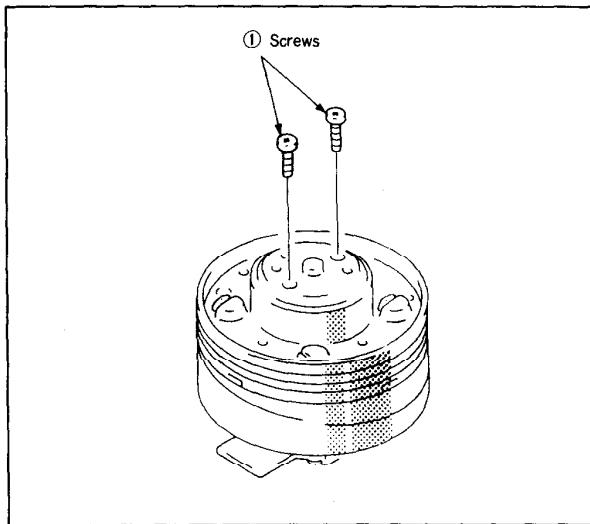

Fig. 28
- 1) Remove the two screws ① (Fig. 28).
- 3) Remove the jig ⑥ and push down the rotary upper drum ⑤ gently by hand. If it does not go all the way down, secure it temporarily by tightening the two screws ① alternately (Fig. 28).
- 4) Tighten strongly both two screws ①, and loosen both screws once, then tighten them again (for stable seating).
- 5) Insert the jig ⑥ into the positioning hole ⑦ again and confirm that it goes in smoothly. If it does not, loosen the two screws ①, repeat step 2) of the Removal paragraph and restart the setting procedure.
- 6) Tighten the screws ①.